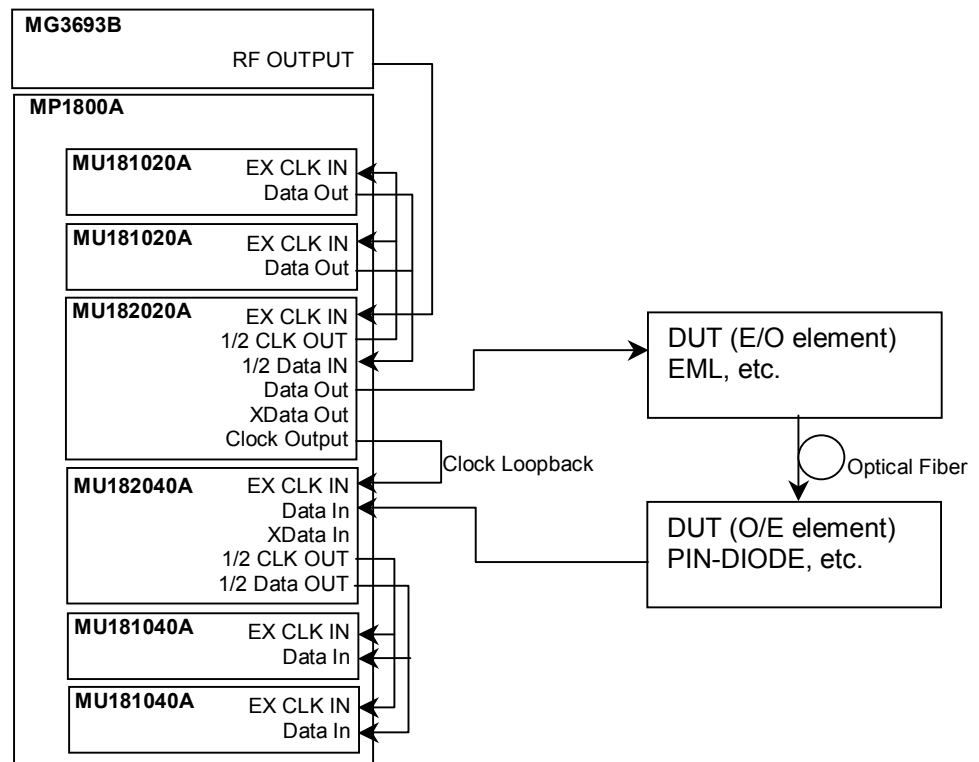

Fig. 5.1-1 Connection diagram for Optical Devices
- 1) Connect the MP1800A, MU181020A/B, MU182020A, MU181040A/B, MU182040A, MG3693B Signal Generator (hereafter MG3693B) as shown in Figure 5.1-1.
Connect the input/output signals using the coaxial cable of application parts or an equivalent coaxial cable. At this time, short the core of the cables using a thin pointed metal stick, such as tweezers, before connection. See Fig. 5.1-1 for connection of the instruments.